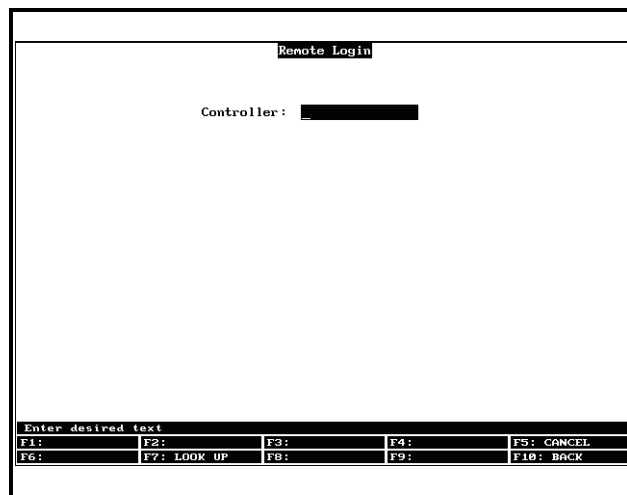

Figure 20-5 - Remote Login Screen
3. The Remote Login screen will appear (See *Figure 20-5*). To choose the controller, press **F7** (LOOK UP).